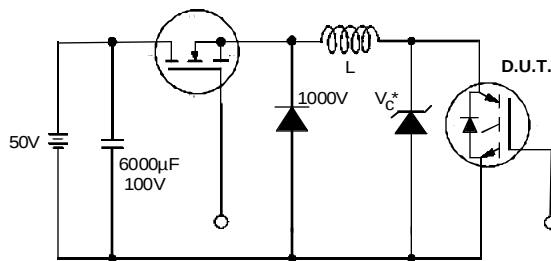

Fig. 19 - Clamped Inductive Load Test Circuit
② $V_{CC}=80\%(V_{CES})$, $V_{GE}=20V$, $L=10\mu H$, $R_G = 23\Omega$, (See fig. 19)
③ Pulse width $\leq 80\mu s$; duty factor $\leq 0.1\%$.
④ Pulse width 5.0 μs , single shot.